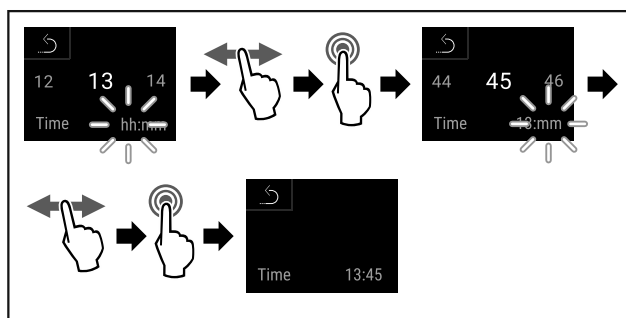

Fig. 87
- ▶ Complete steps (see Fig. 87).